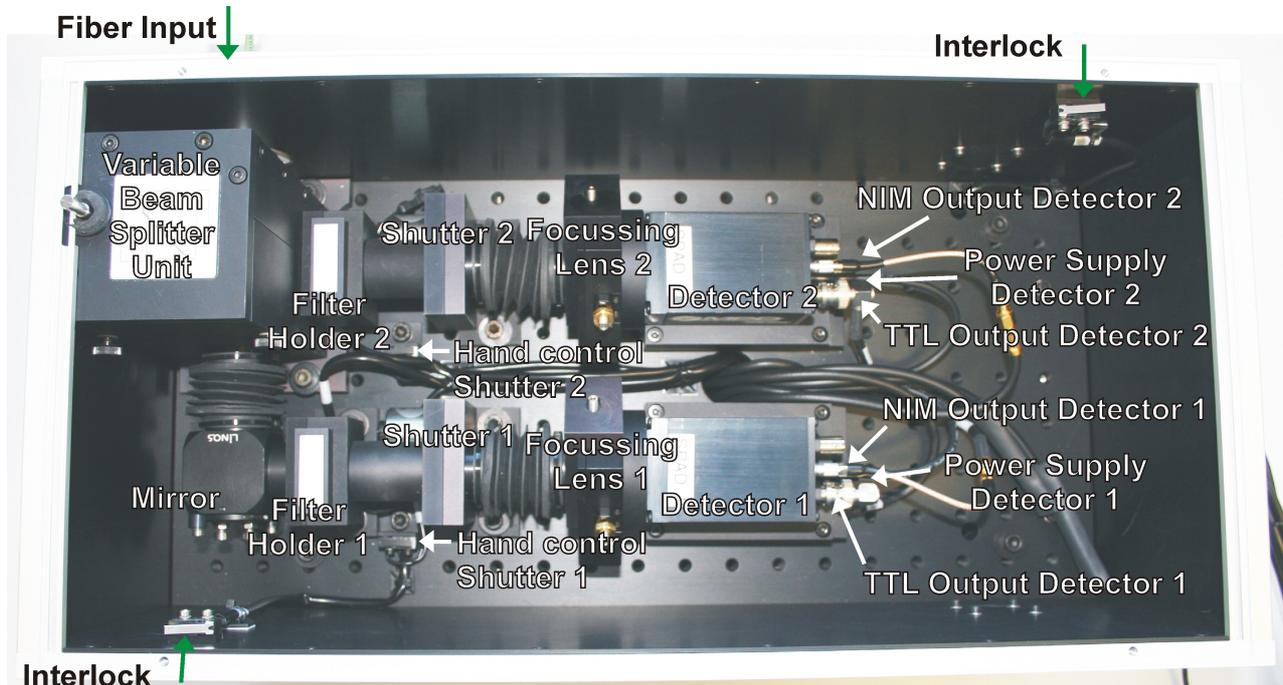

Fig. 4.1: Dual Channel SPAD detection unit
2. Place a **OD3 light attenuator** at the filter holder in front of the misaligned SPAD detector. The filter is placed into the filter holder 1 or 2 for the respective detectors as shown in Fig. 4.1.